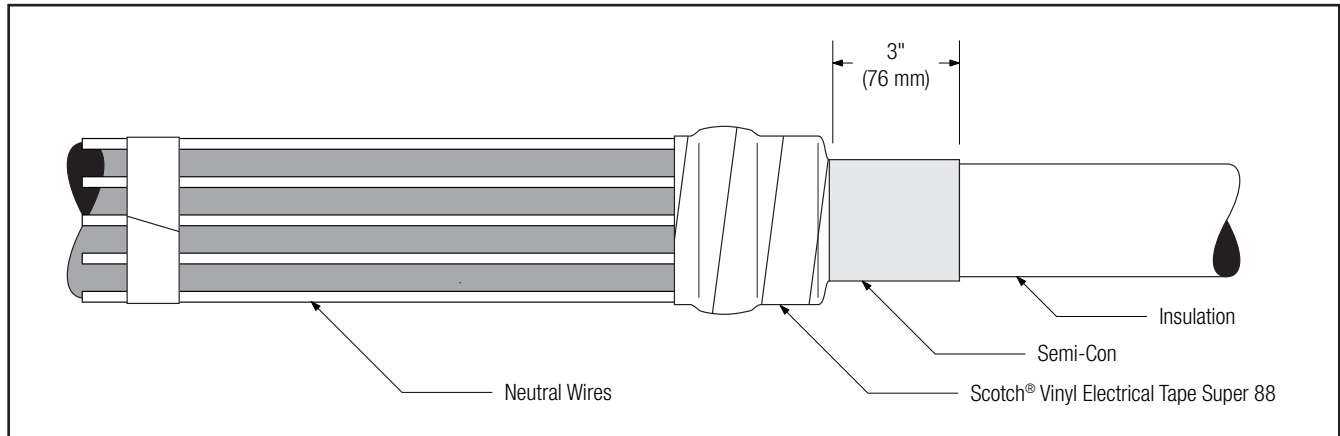

Figure 4
- 1.6 Compress mastic into neutral wires by over-wrapping seal strips with two half-lapped layers of highly-tensioned Scotch® Vinyl Electrical Tape Super 88 as shown. Do not cover cable semi-con. Cover all exposed mastic, overlapping 0.25" (4 mm) onto the exposed cable semi-con. (Figure 4)